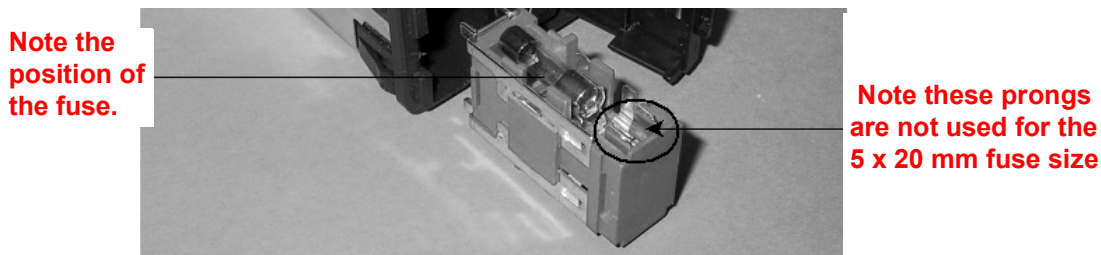

Figure 89: The Sievers Autosampler Fuse Housing
5. Insert the new fuse(s). Ensure that the fuse is positioned toward the end and makes contact with the metal tab (extending up from inside the housing). Reference Figure 89 as needed.